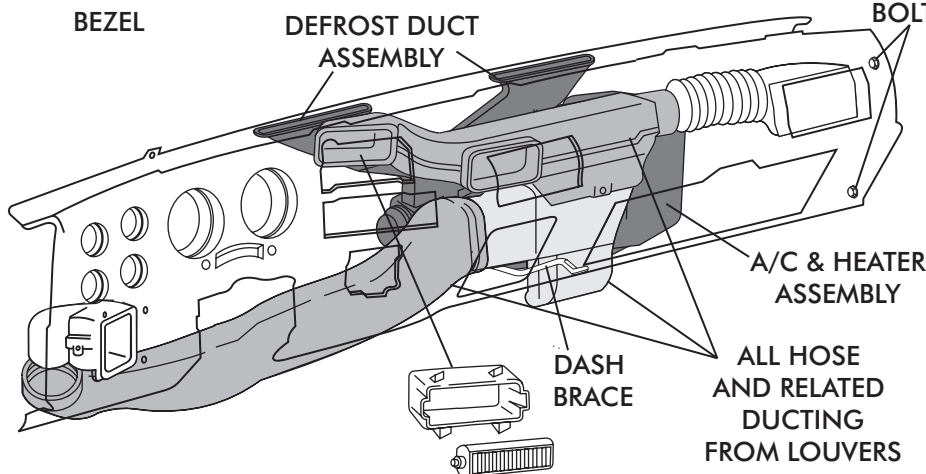
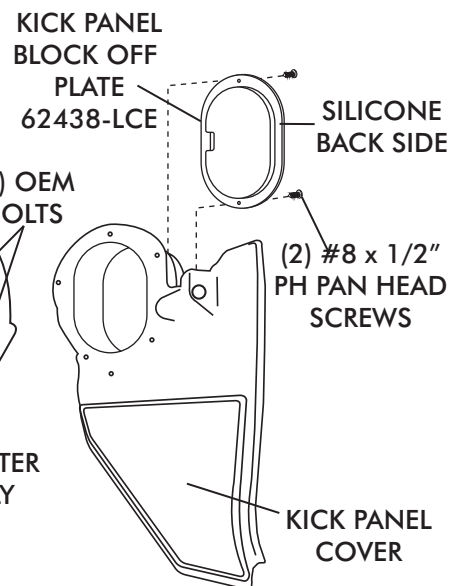

FIGURE 2a
FIGURE 2c
- ☐ ALL HOSE AND DUCTING FROM OEM LOUVERS (SEE FIGURE 2a BELOW).
- ☐ A/C & HEATER ASSEMBLY (DISCARD) (SEE FIGURE 2a).
- ☐ DEFROST DUCT ASSEMBLY (DISCARD) (SEE FIGURE 2a, BELOW).
- ☐ INSTALL KICK PANEL BLOCK OFF PLATE USING (2) #8 x 1/2" PH PAN HEAD SCREWS (SEE FIGURE 2c).
- ☐ **NOTE: FOR EASE OF INSTALLING EVAPORATOR UNDER DASH, IT MAY BE HELPFUL TO REMOVE THE (2) OEM BOLTS UNDER THE DASH ON THE PASSENGER SIDE DOOR PILLAR AND PULL BACK DASH.**
- ☐ **NOTE: SOME MODELS MAY BE EQUIPPED WITH DASH BRACE (REMOVE AND RETAIN) (SEE FIGURE 2a).**